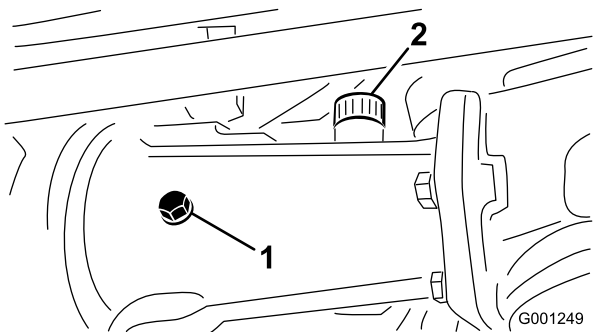
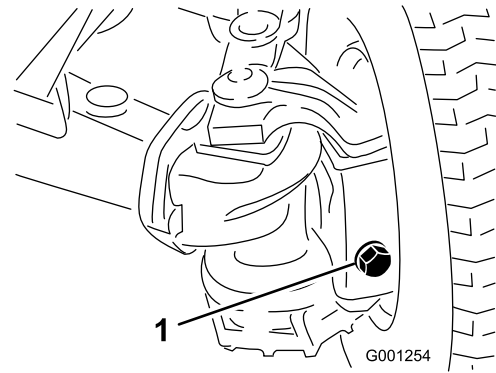

Figure 27
Figure 28
2. Remove the check plugs from the axle and ensure that there is lubricant up to the bottom of each hole. If the level of lubricant is low, remove the fill plugs and add enough lubricant to bring the level up to the bottom of the check-plug holes (Figure 27 and Figure 28).